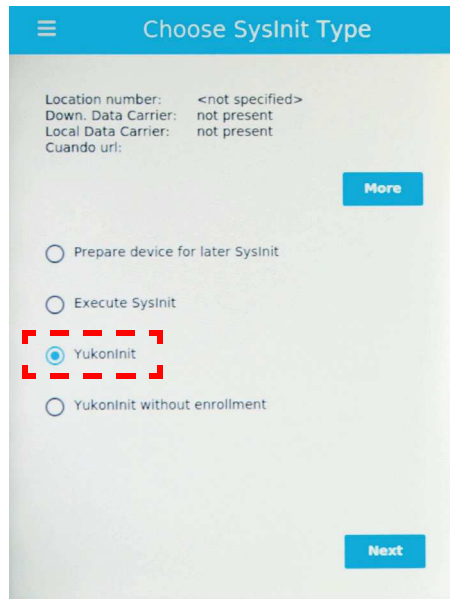

Figure 4-8 Validator Initialization (Workshop) 3
Step 10 Choose <Yukoninit> (see **Figure 4-8**).